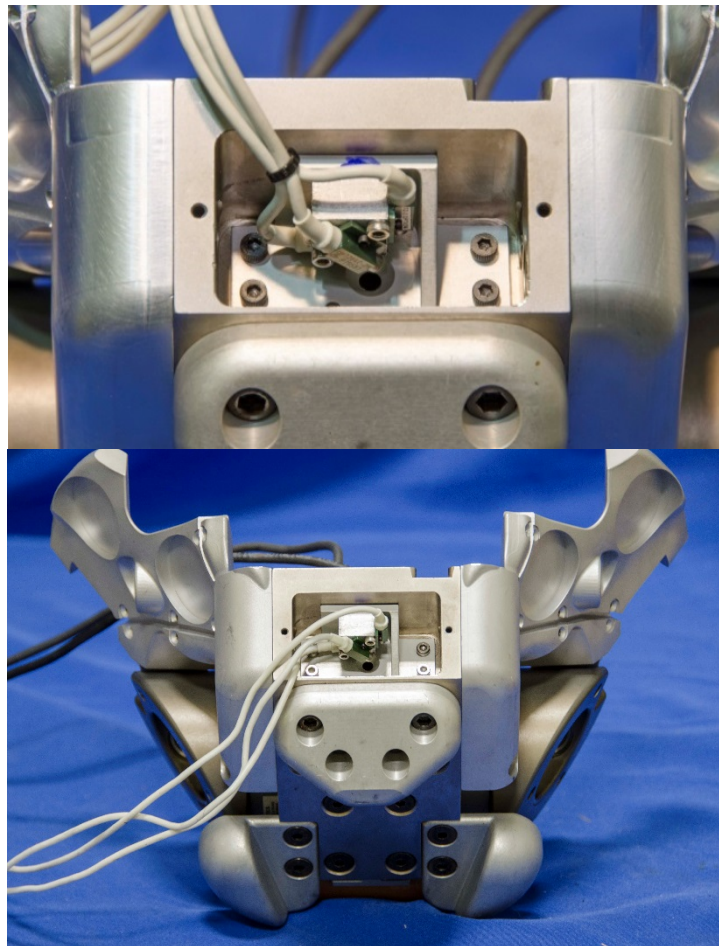

Figure 10-26. Mount pelvis tri-pack assembly to pelvis
10.2.2.17 Mount the Pelvic Tri-Pack Assembly (472-4360) at the Pelvis C.G. (cavity at the rear of the Pelvis Base Module), using four M3 x 0.5 x 10 SHCS (Figure 10-26). The accelerometers are oriented in the following manner: +X forward, +Y right, +Z down. This sign convention agrees with the SAE coordinate system.